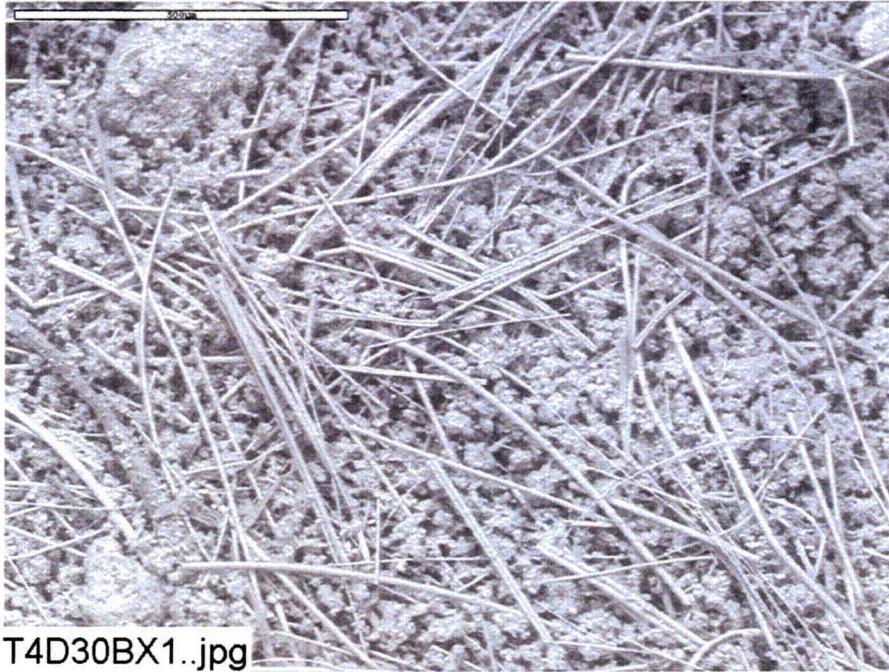

Figure C7-1. Environmental SEM image magnified 100 times for a Test #4, Day-30 exterior fiberglass sample within the birdcage. (T4D30BX1.jpg)
- Figure C7-1. Environmental SEM image magnified 100 times for a Test #4, Day-30 exterior fiberglass sample within the birdcage. (T4D30BX1.jpg)..... C7-4